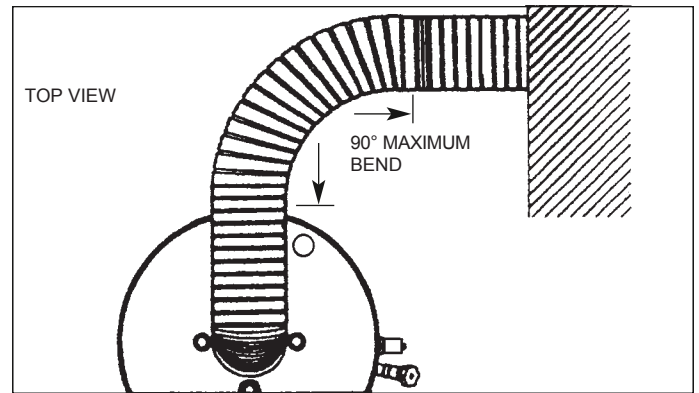
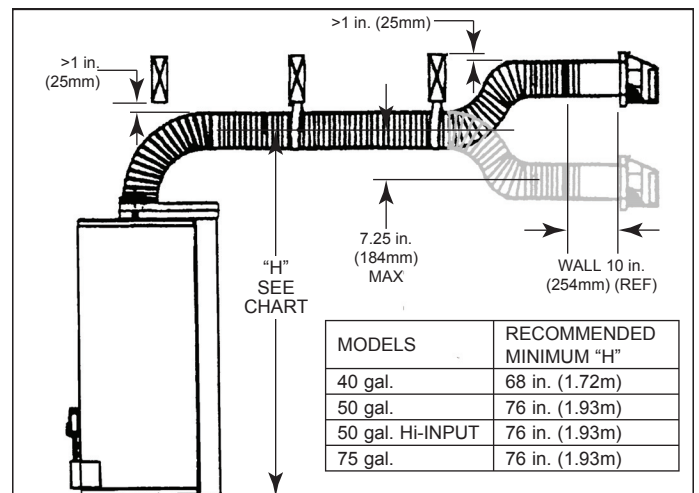

FIGURE 26
FIGURE 27
- B. **Do not combine condition 1 (Figure 26) with condition 2 (Figure 27) in the same installation.**
- C. The maximum allowable drop from vent center-line to vent termination center-line (Figure 27) is 184mm (7.25 in.).